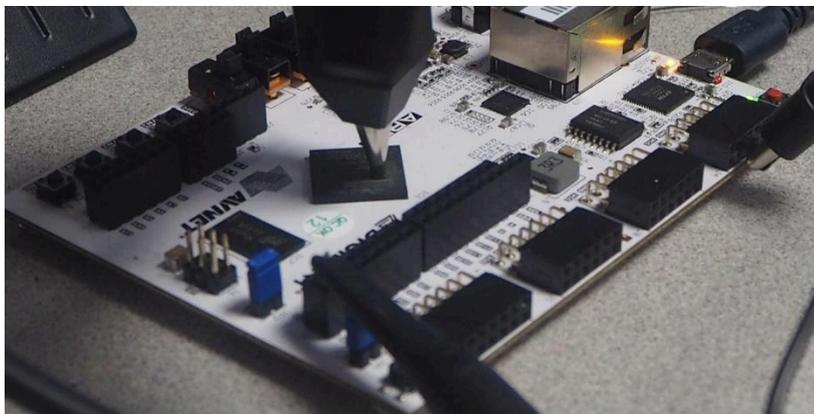

Figure 7: EM probe placed on the main FPGA chip
10. Connect the EM probe to oscilloscope and place the EM probe tip onto the FPGA chip as shown in Figure 7.